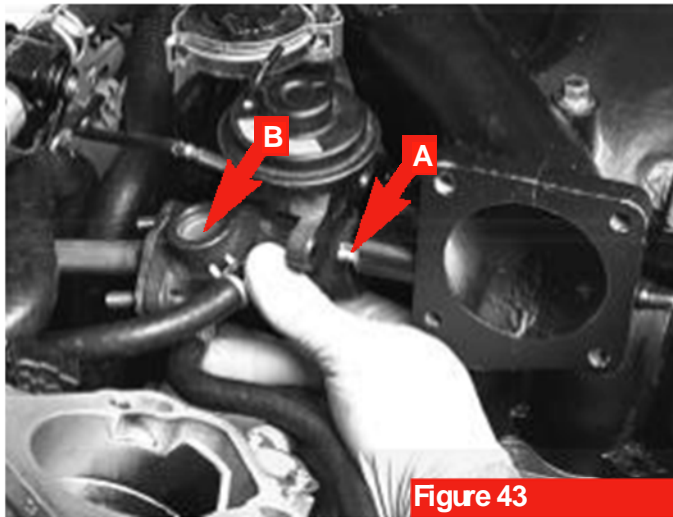

Figure 43
1. Remove the EGR block-off plate from the two studs on the supercharger manifold and using these nuts and washers, install the EGR gasket and valve to the manifold and hand tighten (see arrow A, figure 43).
2. With the supercharger bolted to the engine, attach the EGR valve to the EGR pipe and hand tighten with the original nuts (see arrow B, figure 43).